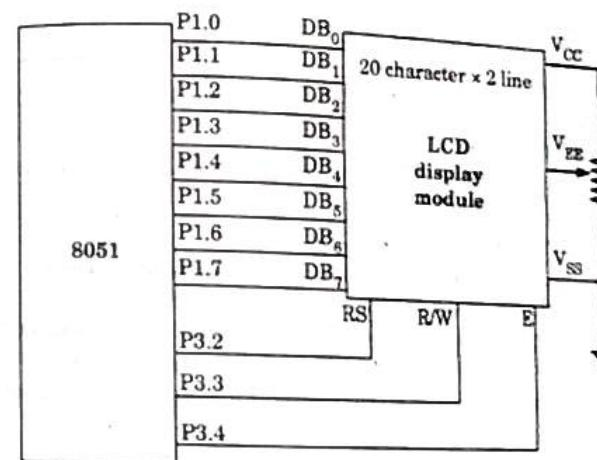

Fig. 5.20.1.
1. The Fig. 5.20.1 shows the interfacing of a 20 character x 2 line LCD module with the 8051.
2. As shown in the Fig. 5.20.1, the data lines are connected to the port 1 of 8051 and control lines of RS, R/W and E are driven by 3.2, 3.3 and 3.4 lines of port 3, respectively.